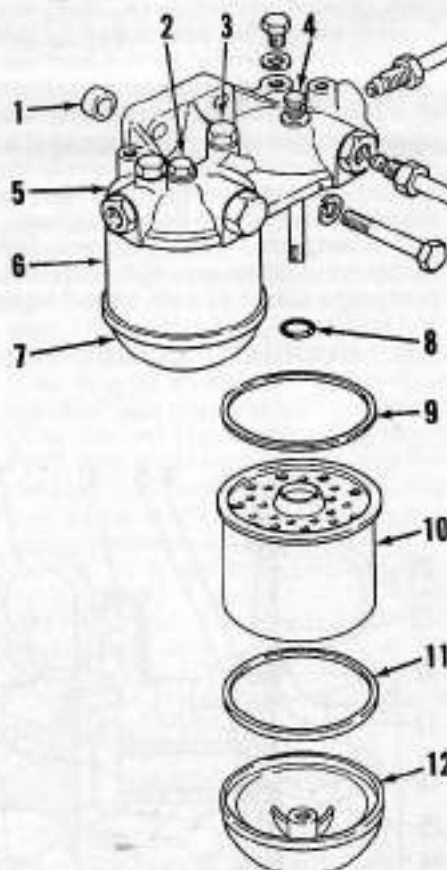

Fig. 78—View of typical fuel filter arrangement used on all models.
Clean area around filters and remove cap screws (2 and 4—Fig. 78) which retain elements and bases. Remove base (7 and 12) and elements (6 and 10). Discard all sealing rings and clean base with diesel fuel.
Install small "O" ring (8—Fig. 78) in groove around protrusion which centers filter element on filter head. Install sealing ring (9) in groove around outer edge of filter head and sealing ring (11) in base. Place element on base and sealing ring, push onto protrusion on filter head and tighten cap screw (4). Repeat the procedure for remaining filter.